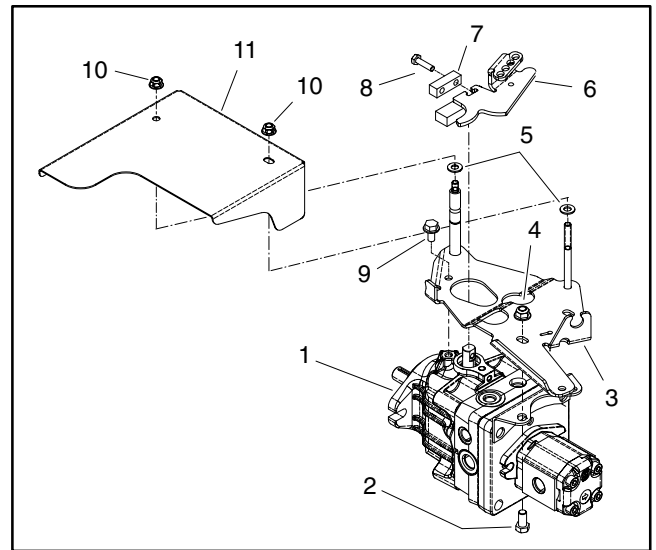

Figure 29
3. Remove two (2) lock nuts that secure pump shield to pump (Fig. 29). Remove shield from pump. Locate and retrieve two (2) flat washers from tops of studs on pump control assembly.